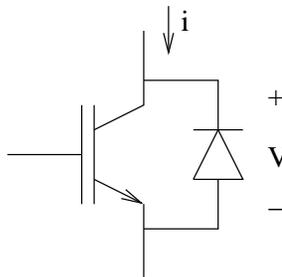

Figure 5.11: Combine Elements 1
1. Block positive V and carry positive and negative i (see Figure 5.11).